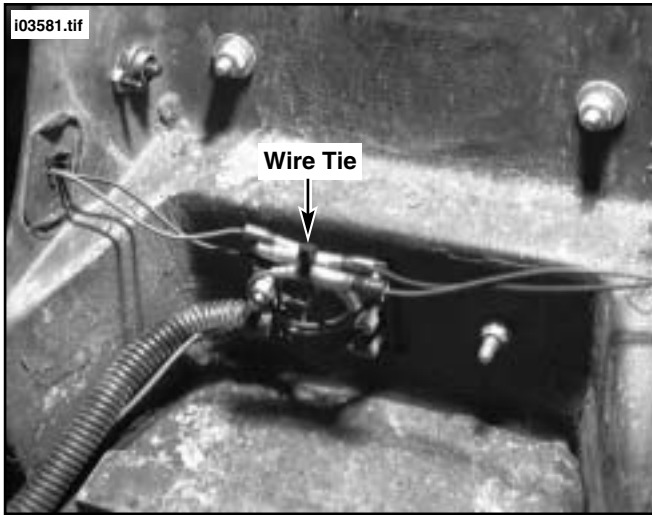

Figure 12. Connect Turn Signal Wiring
- See Figure 12. Connect the left and right turn signal connectors near center of tail section. Use wire tie (Part Number Y0305.8B) and secure as bundle to hold wiring in place. Cut off any excess wire tie.